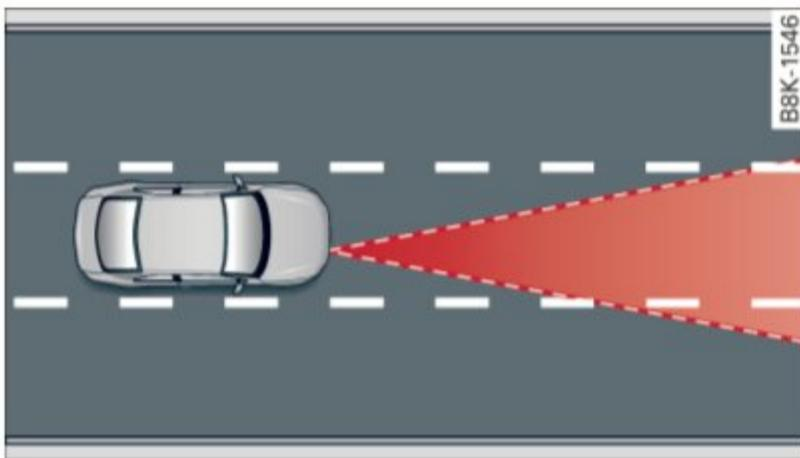

Fig. 113 Detection range
- Objects can only be detected when they are within sensor range ⇒ *page 101, fig. 113*.